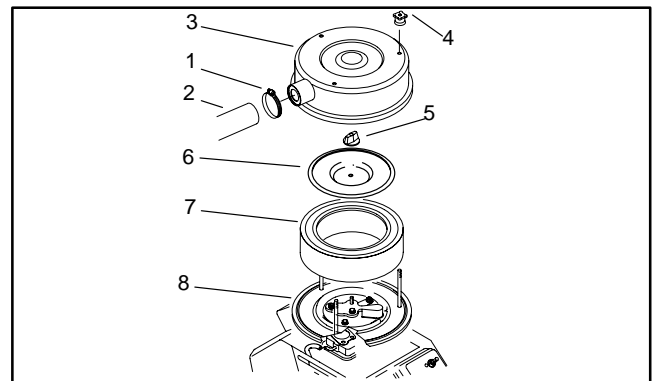

Figure 14
4. Remove air hose from air cleaner cover. Remove air cleaner cover. Remove cover plate and air cleaner element from the air cleaner base (Fig. 14).
6. Install air cleaner element and cover plate to the air cleaner base. Secure air cleaner cover to air cleaner. Secure air hose to air cleaner cover. (Fig. 14).